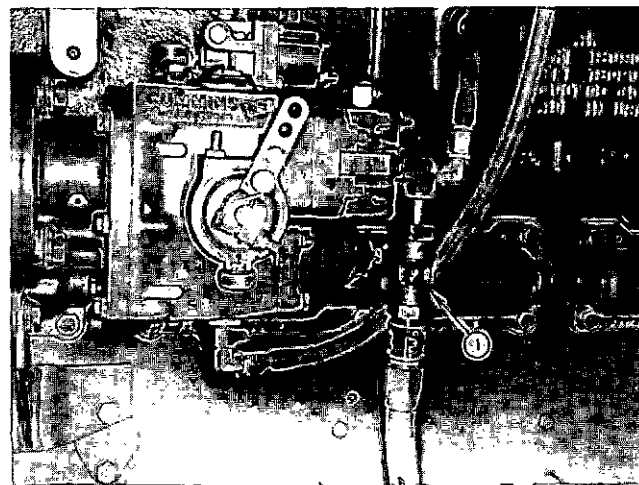

Fig. 2-2 (N11964) Checking air leaks with ST-998 Sight Gauge
2. If there are indications of air leaks on suction side of fuel pump, check for air leaks by placing ST-998 Sight Gauge (1, Fig. 2-2) in the line between fuel filter(s) and pump. Bubbles or "milky" appearance indicate an air leak. Find and correct.